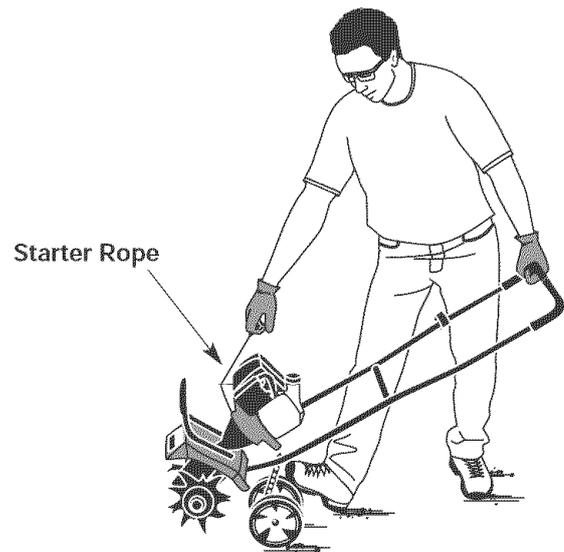

Fig. 12
-  **WARNING:** Avoid accidental starting. Make sure you are in the starting position when pulling the starter rope (Fig. 12). To avoid serious injury, the operator and unit must be in a stable position while starting.
6. Hold the throttle and handlebar with one hand and grab the starter rope with your other hand. Use your foot to hold down the cultivator (Fig. 12).